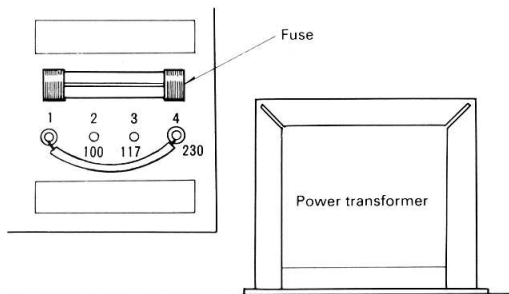

Fig. 5 Voltage Conversion
3. The wiring pins are located beside the power transformer as viewed from the face of the printed circuit board in Fig. 5. Pins 1 and 4 are jumpered for 230V AC. To switch to 117V AC, disconnect the wire clip from pin 4 and replace it to pin 3. Replace it to pin 2 for 100V AC.